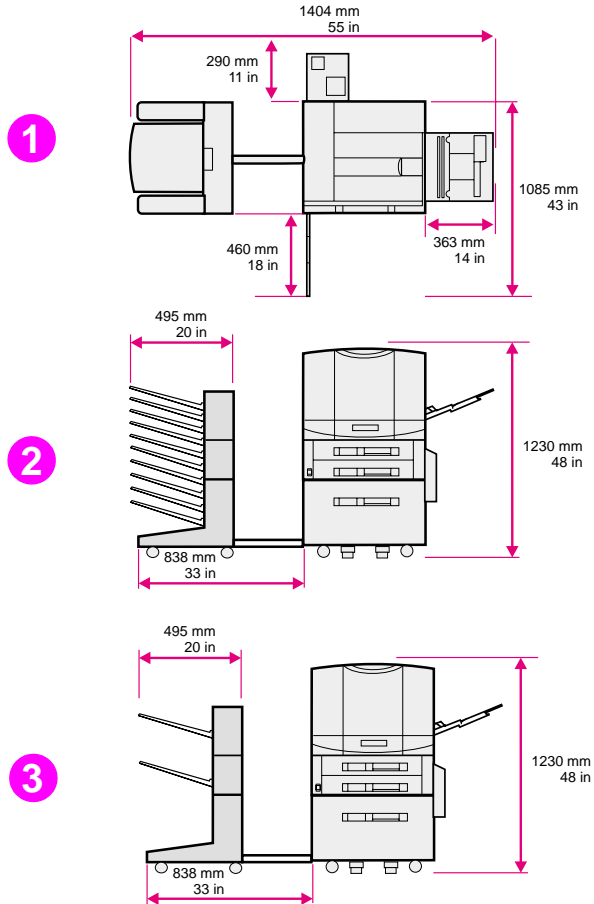

Figure 1. Space requirements
- Install the printer away from walls or other objects. There must be enough space around the printer for proper access and ventilation (see figure 1 on page 28).